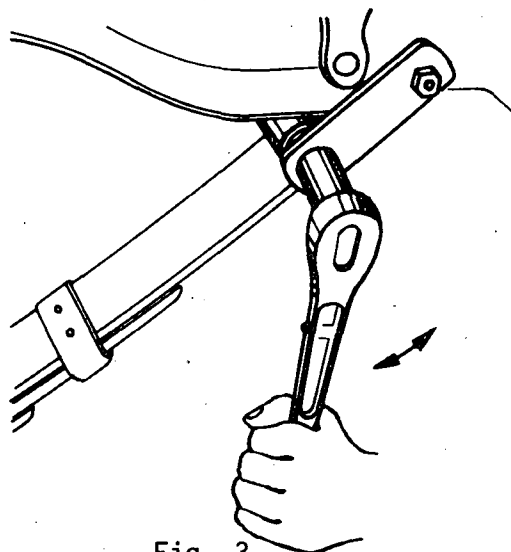

Fig. 3
- e Retire as porcas e as placas laterais das algemas (fig. 3).